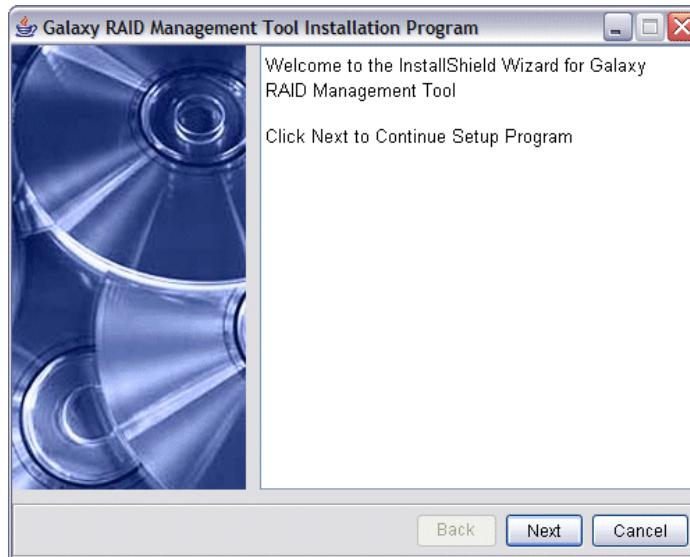

Figure 3-5: Welcome to the Install Shield Window
Step 2. If you selected the *Next* button on *Figure 3-5*, the License Agreement window seen in *Figure 3-6* will appear. First read through the License Agreement. If you are in agreement with the specified terms and wish to continue installing the RAIDWatch program, select *Accept*. If you do not wish to continue with the installation process then select the *Decline* button.